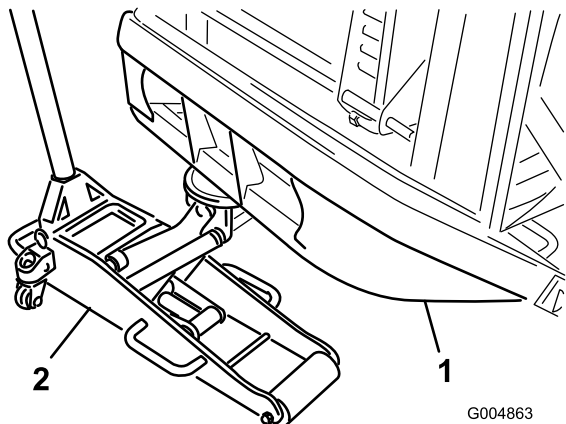

Figure 32
1. Position a suitable floor jack under the rear bumper tube and raise the rear tires off of the ground (Figure 32).